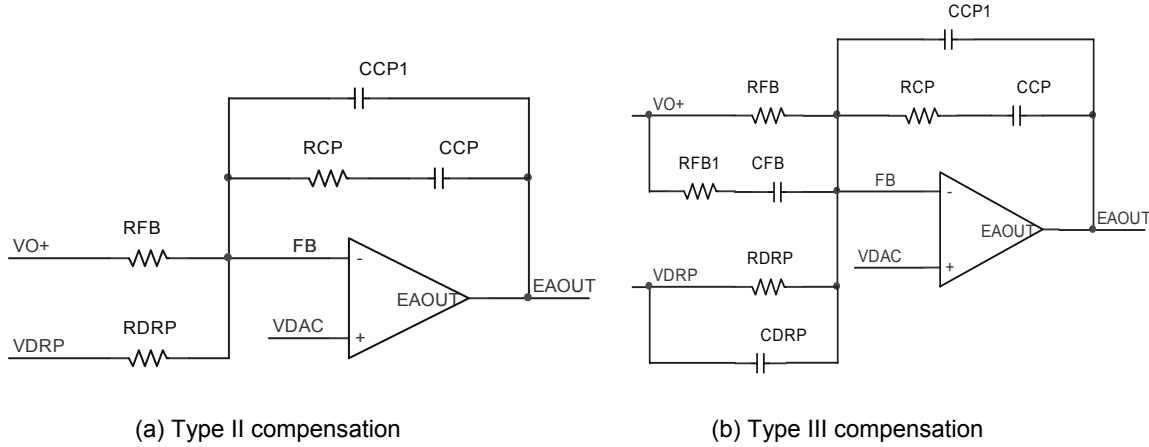

Figure 8. Voltage loop compensation network
Resistors RFB and RDRP are chosen according to Equations (13) and (14), and the selection of compensation types depends on the output capacitors used in the converter. For the applications using Electrolytic, Polymer or AL-Polymer capacitors and running at lower frequency, type II compensation shown in Figure 8(a) is usually enough. While for the applications using only ceramic capacitors and running at higher frequency, type III compensation shown in Figure 8(b) is preferred.
For applications where AVP is not required, the compensation is the same as for the regular voltage mode control. For converter using Polymer, AL-Polymer, and ceramic capacitors, which have much higher ESR zero frequency, type III compensation is required as shown in Figure 8(b) with RDRP and CDRP removed.